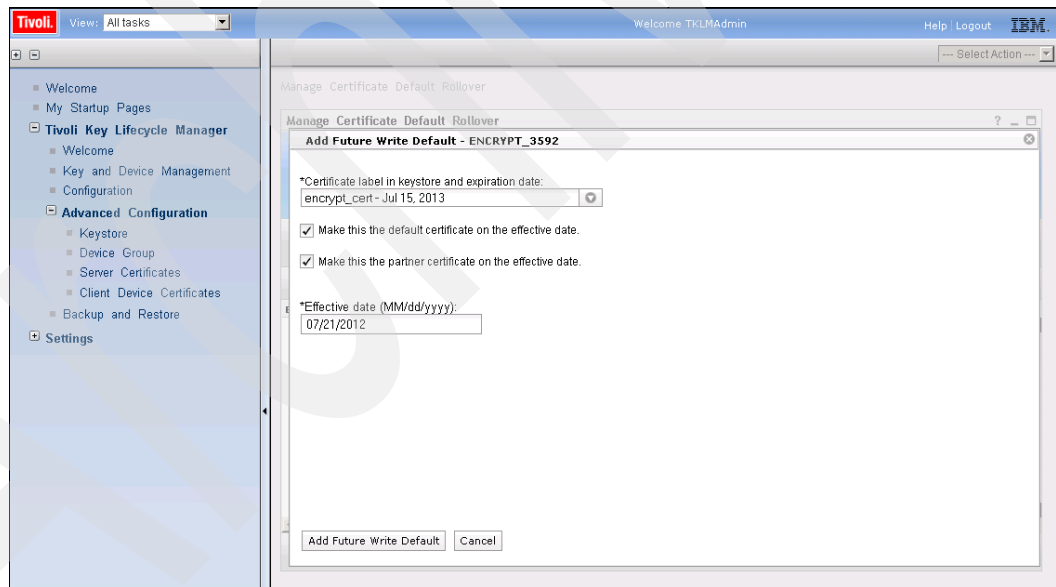

Figure 9-72 Add future write default
4. Select the 3592 certificate to roll over, select either self-signed or partner certificates, and specify an effective date. Click **Add Future Write Default** or **Cancel** (Figure 9-72).